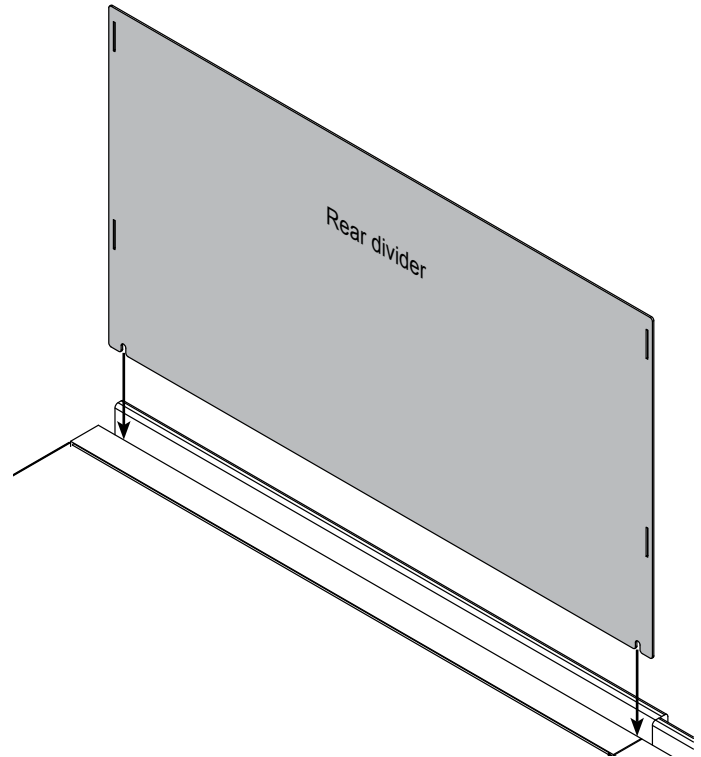

Figure 2
1. Loosen the (2) chair rail screws and pull the chair rail away from the desk about 1/4". **Figure 2.**